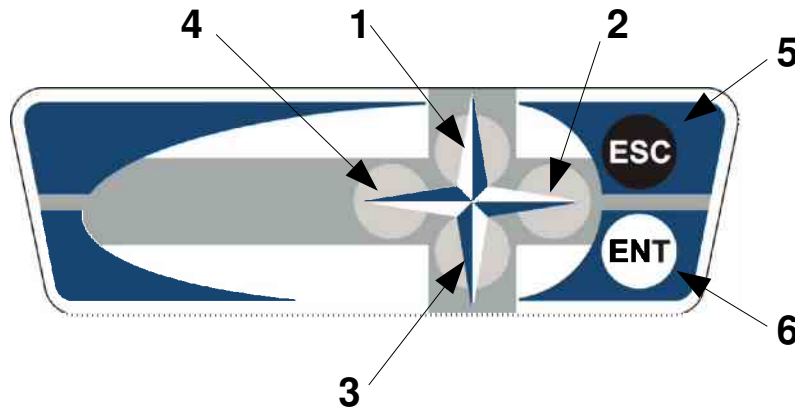

Figure 1
- Then open the hood and unscrew strut nuts while keeping the capsule opened. (Figure 1 below).
- Select the **Warm-Up** program with the motion buttons (**UP**, **DOWN**, **LEFT**, **RIGHT**) until **Warm-Up** (blue box) is highlighted. Confirm your selection by pressing **ENTER** (see Figure 1).
- To cancel the Warm-Up program at any time press the **ESCAPE** button (see Figure 1) and follow the instructions from LCD screen.
- Move with the motion buttons until the **Settings** box is highlighted and confirm your selection with the **ENTER** button (see Figure 1).
- To move up/down in the submenu, use the **UP or DOWN** buttons (see Figure 1). To select different settings press **ENTER** and use the **LEFT or RIGHT** buttons.
- Move with the motion buttons until the **Service** box is highlighted and confirm your selection with the **ENTER** button (see Figure 1).
- To move up/down in the submenu, use the **UP or DOWN** buttons (see Figure 1). To select **ON/OFF**, use the **LEFT or RIGHT** buttons. To go back to the previous menu, press the **ESCAPE** button.
- Highlight the **Language** box with the motion buttons and confirm your selection by pressing **ENTER** (see Figure 1).
- Highlight the **Software** box with the motion buttons and confirm your selection by pressing **ENTER** (see Figure 1).
- In the Main Menu, move with the motion buttons until **Programs** (blue box) is highlighted and confirm your selection by pressing **ENTER** (see Figure 1).
- To move up/down in the submenu use the **UP** or **DOWN** buttons (see Figure 1). Press **ESCAPE** to go back to the previous menu. To select the program press the **ENTER** button.